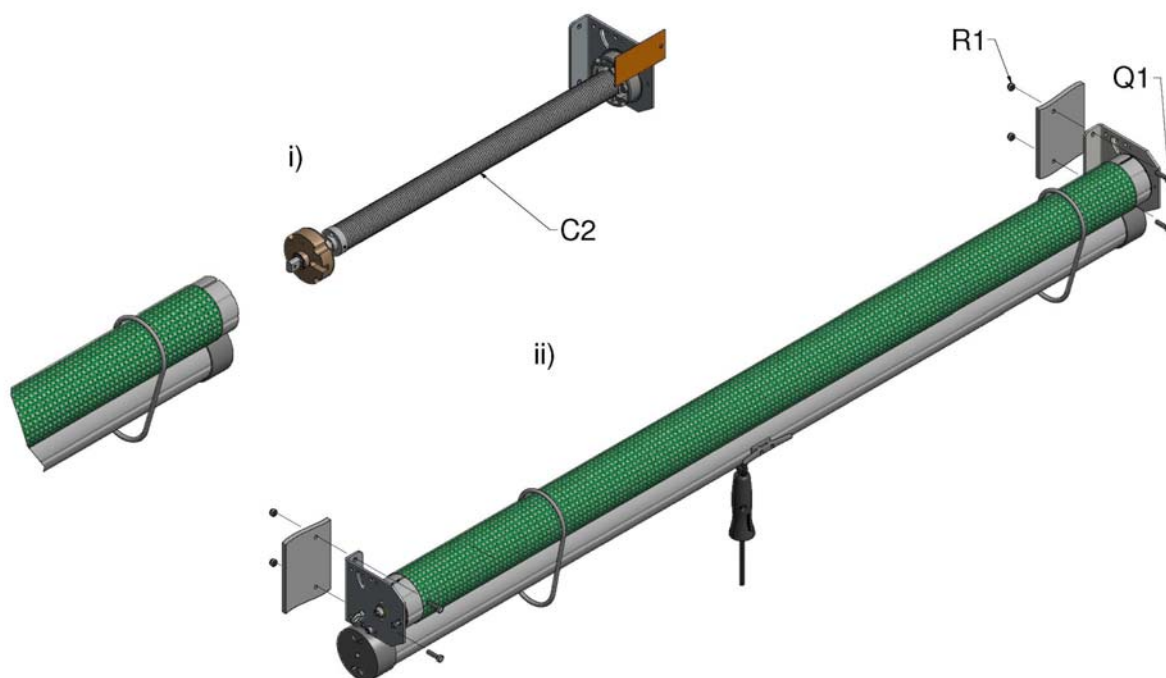

Figure 7b, Mounting Screens over 5.5m Wide to Building
6.2 Screens over 5.5m wide (Figure 7b):